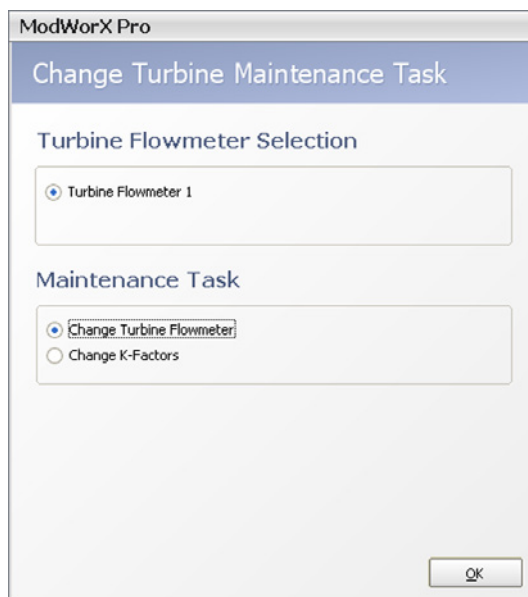

Figure 13.7
1. If Change K-Factor is not displayed in the Maintenance Task field at the top of the Maintain Turbine screen, click on **Change Task**. The Change Turbine Maintenance Task dialog will appear (Figure 13.7, page 179).